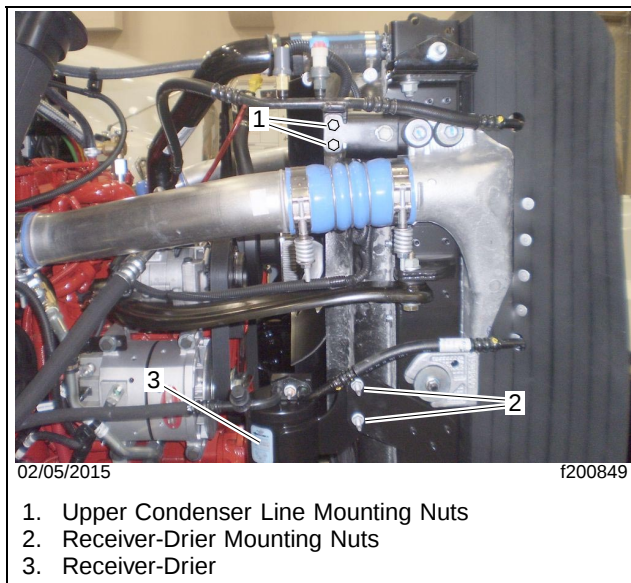

Fig. 2, Receiver-Drier Installation (typical)
- 15.1 Remove the receiver-drier and upper condenser line mounting nuts, then free the receiver-drier. See **Fig. 2**.